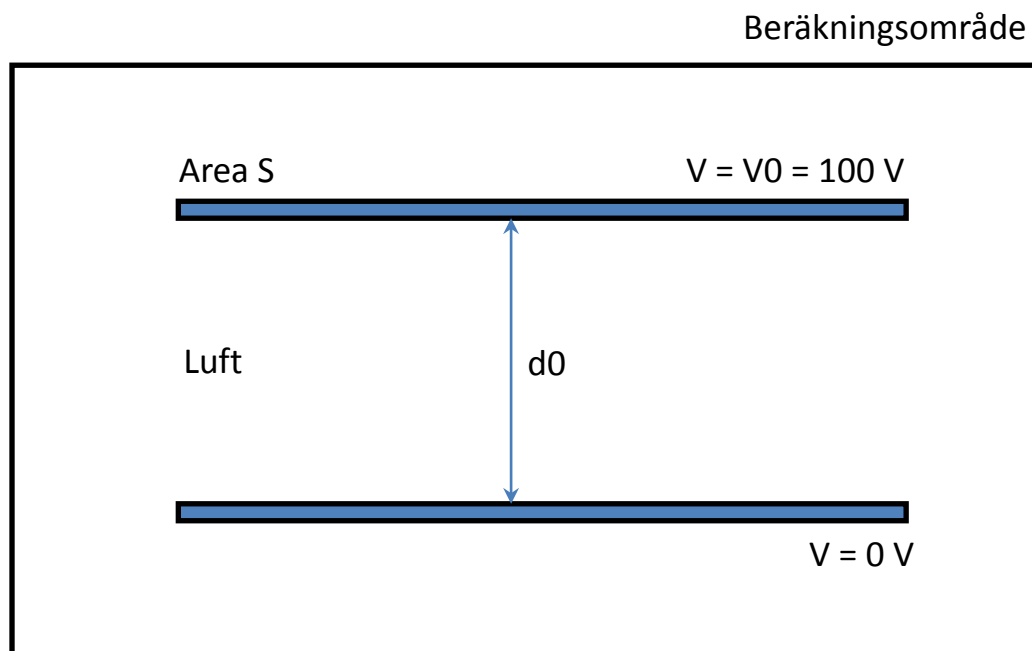

Figure 1: The geometry of the plate capacitor with its surroundings.
2. Introduce a parameter list. Under *Model Builder* there is *Global Definitions*. Right click and choose *Parameters*. In the middle there is now a window with *Settings*. Under *Parameters* introduce the parameters defined in figure 1. The distance between the conductors may be chosen initially to d_0 equal to 0.1 m. Write it as 0.1[m], where the physical dimension is in between the brackets. The "area" of the plates S is written with the dimension [m], since in 2D the default value of the depth is 1 m. Choose S as 0.5 m. Introduce the value of the potential V_0 for the upper conductor. For instance $V_0=1[V]$.